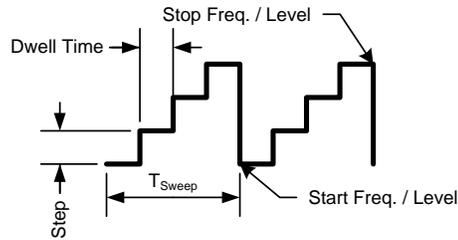
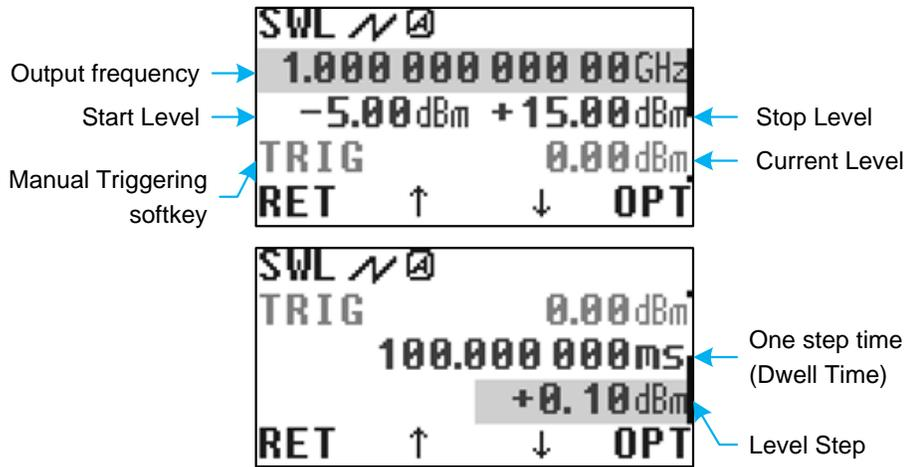

Figure 12: Sweep frequency/level parameters
Figure 16: Sweep level operation mode menu (Operation Modes▷Sweep Level)
Sweep frequency is a step change of output frequency by the specified shape (e.g. triangle, saw) at a constant signal level. (fig. 12). T_{Sweep} – time of one period.
SWL mode is the step change of output level by the specified law (e.g. triangle, saw) at constant frequency (fig. 12). T_{Sweep} – one pass (period) time. Sweep level mode (SWL) has the following parameters (fig. 16):
- Manual – triggering event performed manually by pressing TRIG softkey (see fig. 16);
- Dwell Time – this sub-menu item duplicates the corresponding menu item in fig. 16;
- Level Step – this sub-menu item duplicates the corresponding menu item in fig. 16;